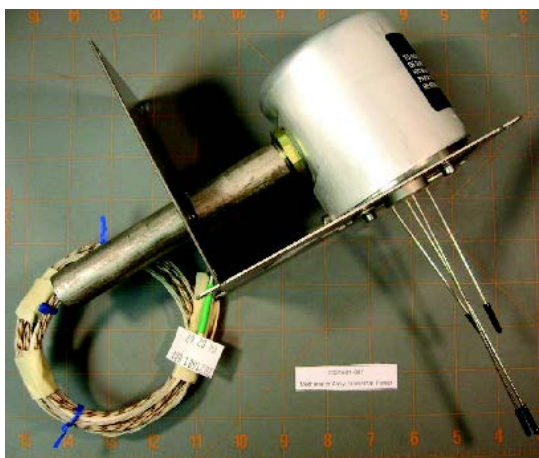
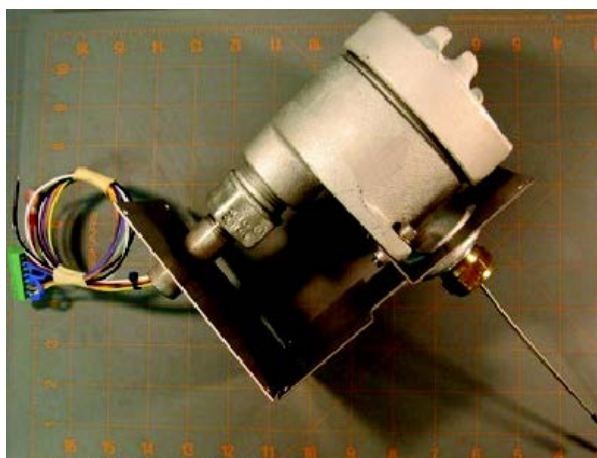

Figure 2-55 Purged Methanator
Figure 2-56 Explosion Proof Methanator
The methanator (Figure 2-55 and Figure 2-56) is used with a Flame Ionization Detector (FID) when it is necessary to detect carbon monoxide (CO) or carbon dioxide (CO₂). In the methanator CO and CO₂ are chemically changed to methane using excess hydrogen and a catalytic reaction. The concentration of methane, which can be detected using an FID, is proportional to the concentration of CO and CO₂. In this manner, it is possible to detect CO and CO₂ using an FID.